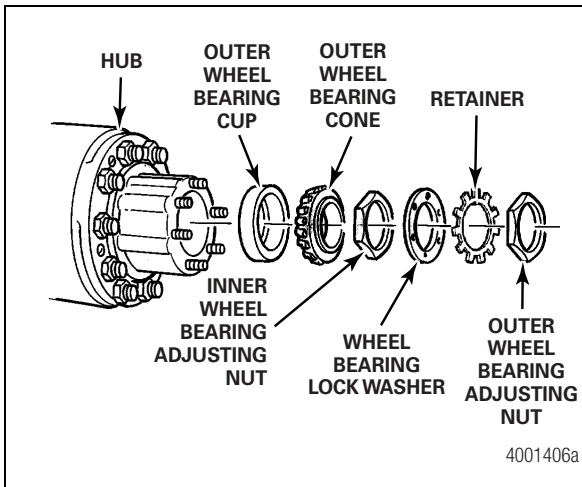

Figure 5.11
1. Install the inner wheel bearing adjusting nut onto the spindle and against the outer bearing. Figure 5.11.